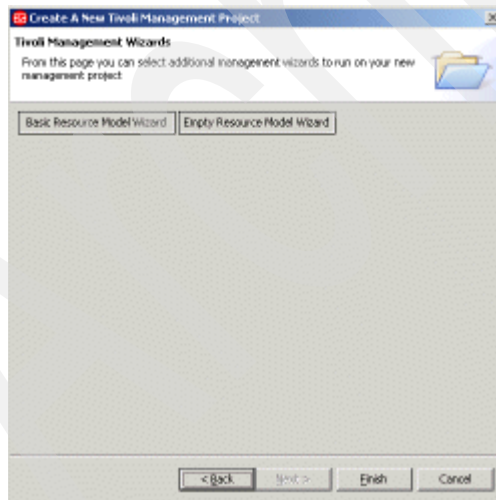

Figure 9-37 Create A New Tivoli Management Project: Tivoli Management Wizards
7. Select **Next**. The window displays as shown in Figure 9-37.